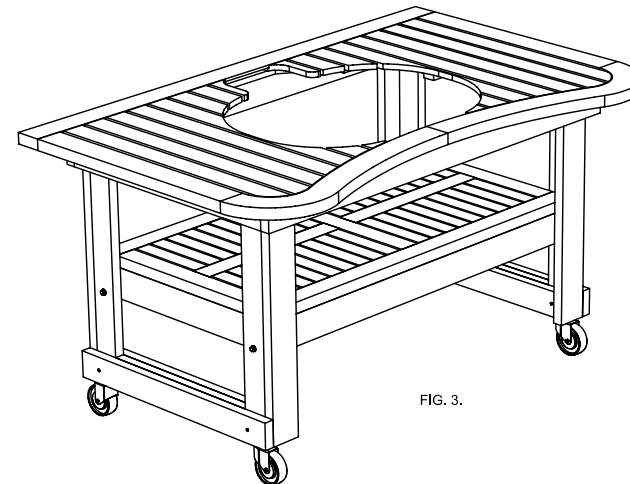

FIG. 3.
6.) TABLE IS NOW READY TO HAVE GRILL LOWERED INTO PLACE. (FIG. 3) MAKE SURE THAT HINGE SIDE OF GRILL IS ORIENTED WITH CUT-OUT IN TABLE TOP.